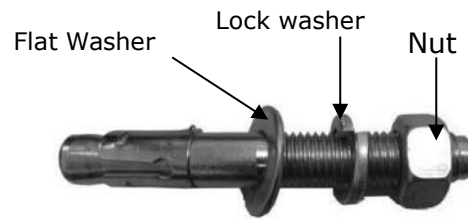

Fig. 16
1. Prepare the anchor bolts (See Fig. 16).